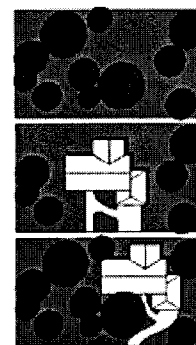

Figure 4. You may be able to save some trees by siting the new construction away from the center of the lot.
3. **Select the trees to be saved.** Examine the site carefully and note how each tree fits into the future landscape. Keep in mind that the builder may be able to shift the location of a building, utility line, or driveway. Although local ordinances differ, driveways and utility lines don't always have to be straight, and homes don't always have to be in the center of the lot (Figure 4). If considerable damage to the tree's root system within the PRZ is inevitable, you should seriously consider changing the original design, adding protection measures, or removing the tree before construction begins.